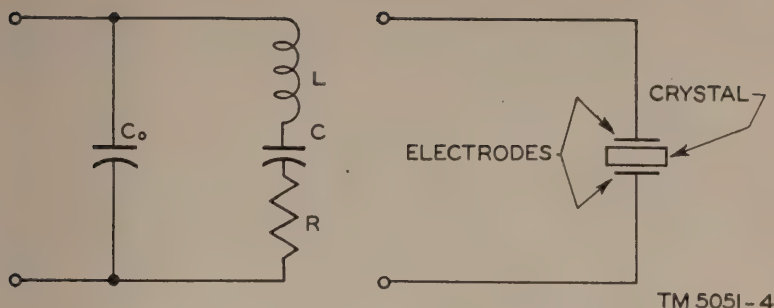

Figure 5. Equivalent electrical circuit of a piezoelectric crystal.
- (1) *Piezoelectric effect.* When an electrical stress is applied to a cut quartz crystal in the direction of one of the major axes, a mechanical stress is produced at right angles to this axis. Conversely, a mechanical stress along a major axis will cause electrical charges to appear on the faces of the crystal perpendicular to the stress axis. The polarity of the electrical stress and the direction of the corresponding mechanical force are interrelated, a reversal in one causes a reversal in the other. This relationship between electrical stress and mechanical force is termed the piezoelectric effect and provides a means of relating mechanical vibrations to electrical circuits.
- (2) *Resonance.* An alternating voltage applied across a quartz crystal will cause the crystal to vibrate; if the frequency of the applied alternating voltage approximates a frequency at which mechanical resonance can exist in the crystal, the amplitude of the vibrations will be very large. Any crystal has several such resonant frequencies that depend on the crystal dimensions, the type of oscillation involved, and the orientation of the plate cut from the natural crystal.
- (3) *Properties of piezoelectric resonator.* A good piezoelectric resonator possesses the following properties: a low-temperature coefficient of resonant frequency, a high piezoelectric activity (performance index), and a frequency spectrum containing only one resonant frequency in the vicinity of the desired oscillation. Temperature can alter the frequency of mechanical resonance through its effects on the density, the linear dimensions, and the moduli of elasticity of the crystal. Since some of the elastic constants are positive and others are negative, the temperature coefficient of frequency may be either positive, negative, or zero, according to the mode of oscillation, the orientation of the crystal plate, and the shape of the plate. The electrical circuit associated with a vibrating crystal is shown in figure 5. The capacity  $C_0$ , represents the electrostatic capacity between the crystal electrodes when the crystal is in place but not vibrating; the series combination of  $L$ ,  $C$ , and  $R$  represents the equivalent mass, compliance, and frictional loss of the vibrating crystal, respectively. Read TM 11-2540 for more detailed information on this subject.
the use of a Q meter or an r-f bridge, be careful to select a frequency of operation somewhat lower than the crystal unit frequency. Figure 5 shows a diagram of the parameters of a piezoelectric crystal.